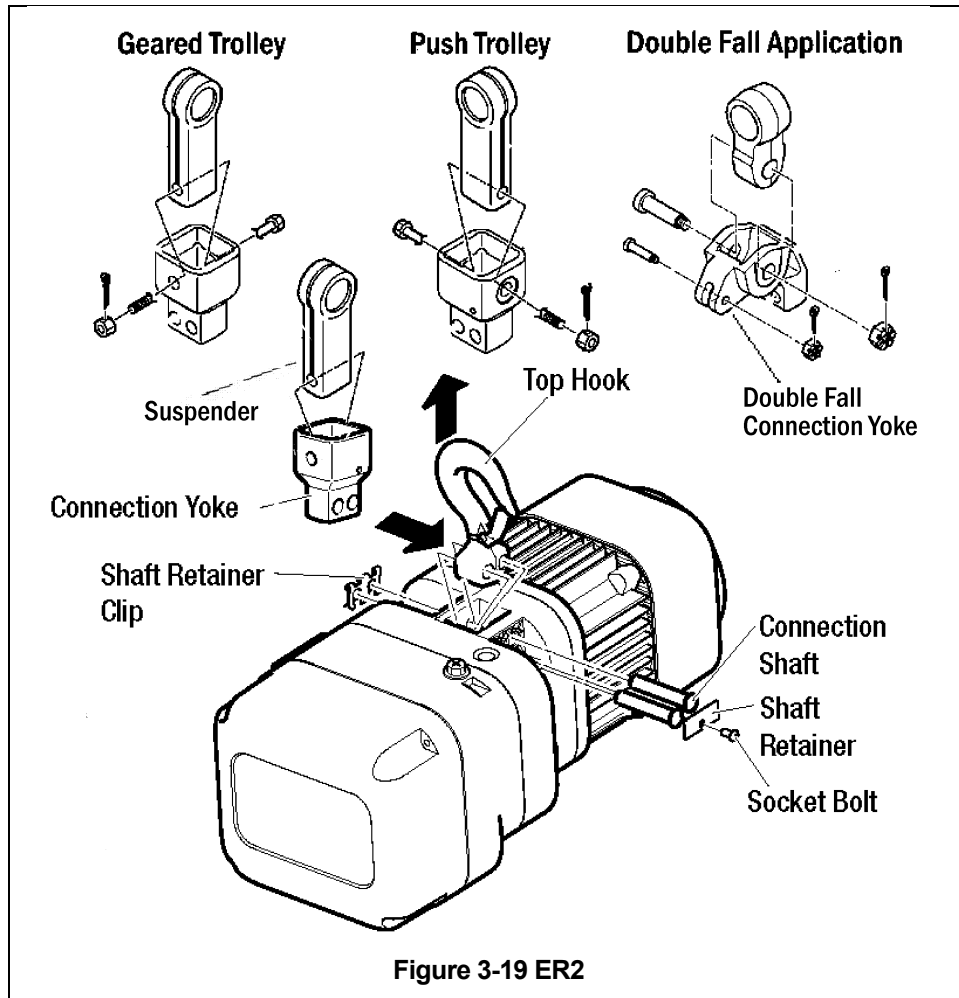

**Figure 3-18 Model ED1050 – Installing Suspender E**
- 2) The standard configuration for ED1050S/DS hoists is to couple the hoist directly to the trolley with Suspender "E", as shown in **Figure 3-18**.
- 4) Refer to **Figure 3-18**. Remove the Top Hook assembly by removing the Split Pin from the Slotted Nut. Remove the Slotted Nut, pull out the Top Pin, and remove the Top Hook. Replace with Suspender E, replace Top Pin, Slotted Nut and Split Pin. Be sure to bend Split Pin ends of the Split Pin away from each other sufficiently so the Split Pin remains captive in the Top Pin. Attach hoist to the trolley.